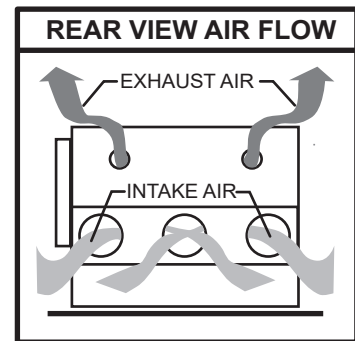

FIG. 2
- Heated exhaust air is expelled through the two small ports located just above the rear electrical cover. (FIG. 2) Keep materials or building surfaces that may be susceptible to this heated exhaust air clear from the rear area.